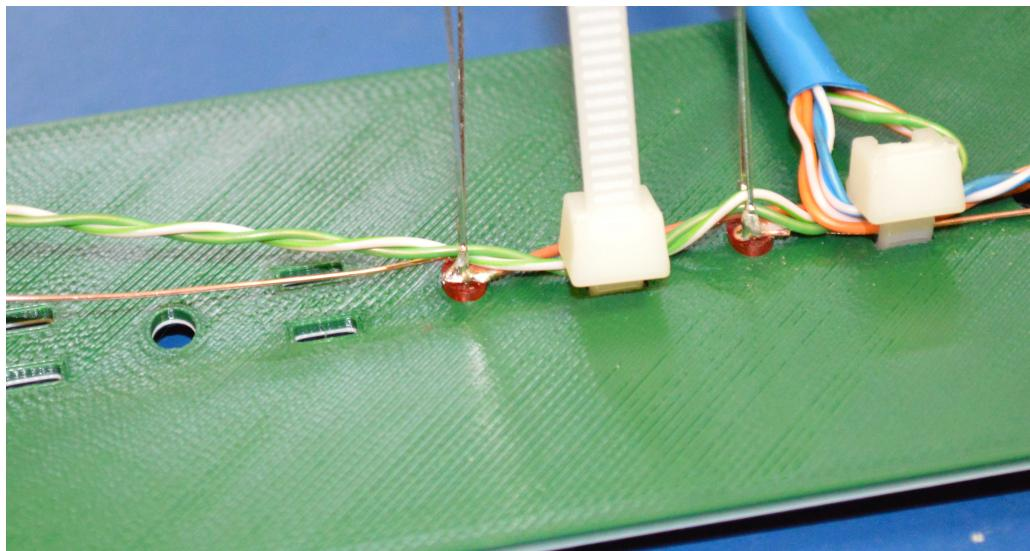

Figure 2.16: Solder the Second LED and Add a Cable Tie
- Solder the next LED and add a cable tie between them. See Figure 2.16.